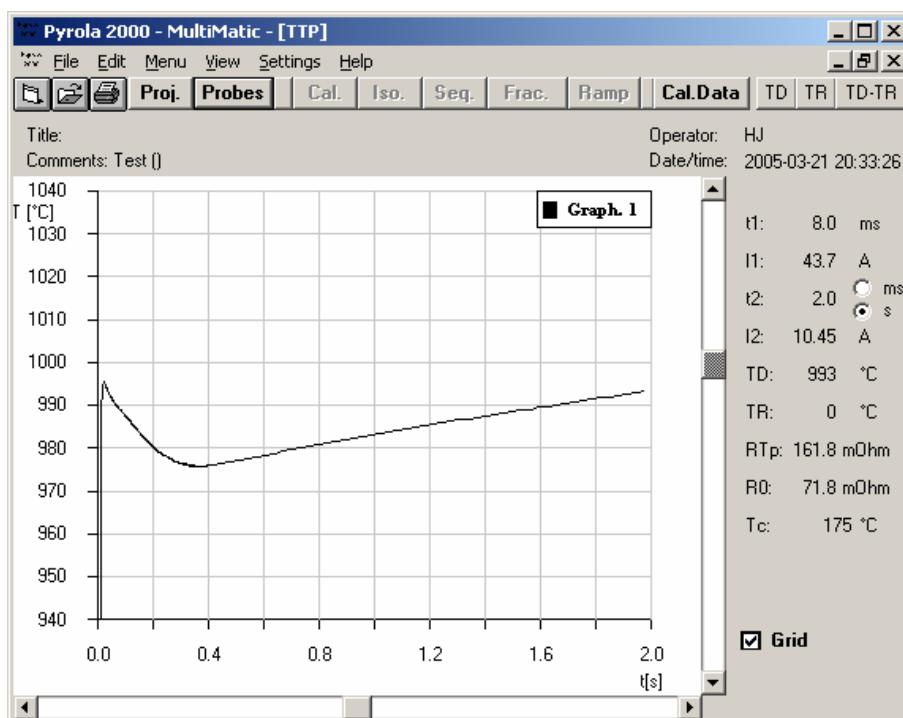

Figure 4-4. TTP diagram.
10. The TTP diagram is shown, see Figure 4-4. Check that the initial pyrolysis temperature T_d is in the range from 975° to 1000°C , and that the final temperature is the same as the initial temperature, within $\pm 5^\circ\text{C}$. If not, adjust I_1 and I_2 and repeat steps 8-9. If the calibration window is hidden behind the TTP diagram, you may show it by pressing the button 'Cal.' above the graph.